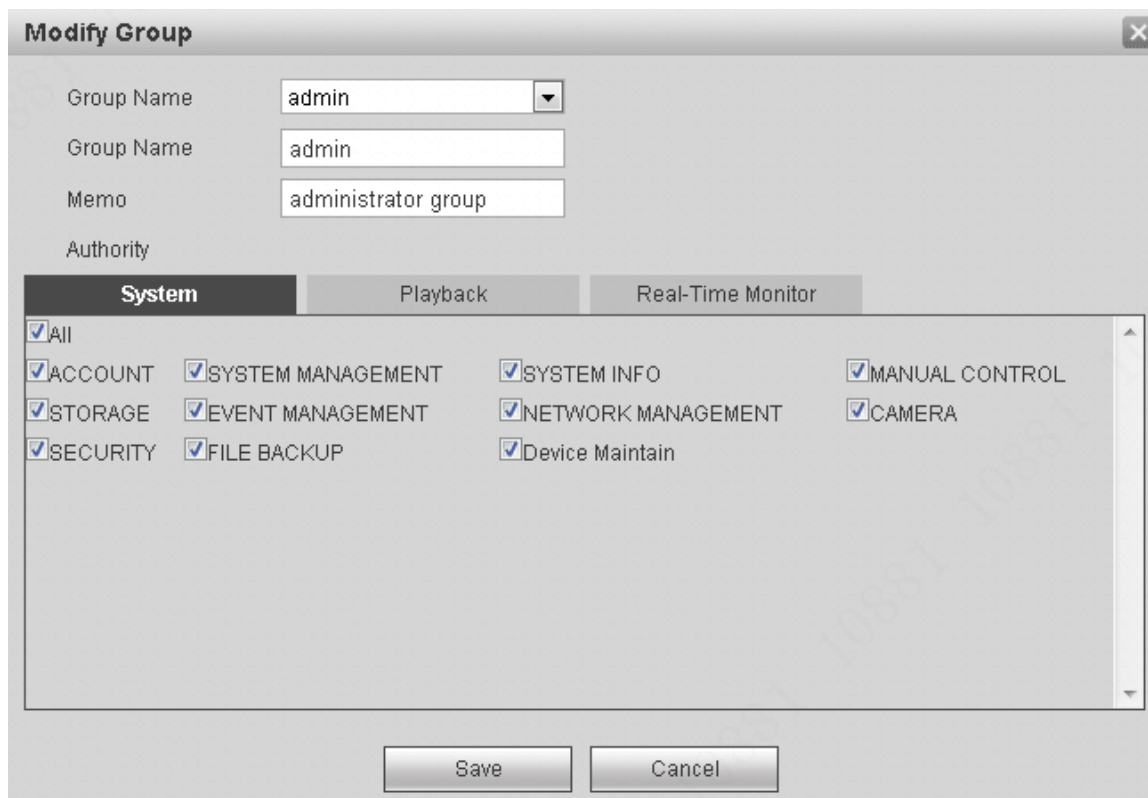

Figure 5-89
Step 1 Select a group and then click . See Figure 5-89.